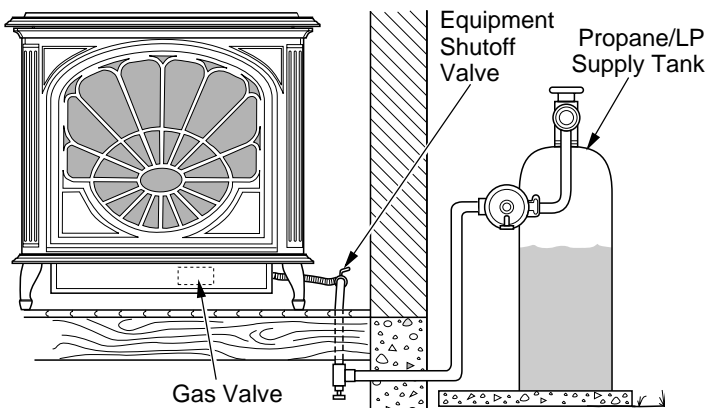
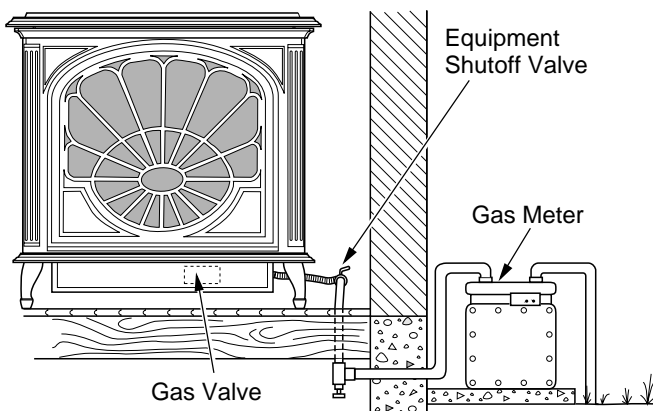

Figure 32 - Checking Gas Joints for Propane/LP Gas Burner System
Figure 33 - Checking Gas Joints for Natural Gas Burner System
3. Check all joints from propane/LP supply tank or gas meter to equipment shutoff valve (see Figure 32 for propane/LP or Figure 33 for natural, page 15). Apply noncorrosive leak test solution to all gas joints. Bubbles forming show a leak. Correct all leaks at once.
4. Check all joints from equipment shutoff valve to thermostat gas valve (see Figure 32 for propane/LP or Figure 33 for natural, page 15). Apply commercial leak test solution to all gas joints. Bubbles forming show a leak. Correct all leaks at once.